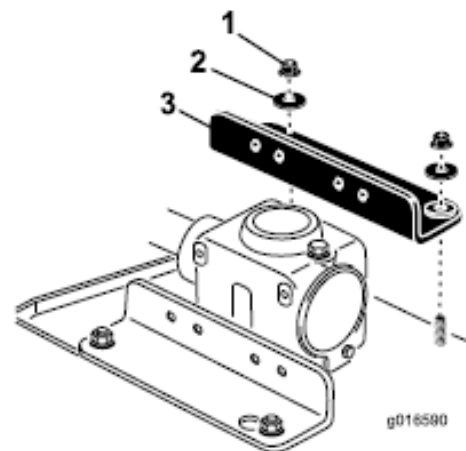

Figure 2
6. Remove and retain the (2) flange nuts and washers that secure the left gearbox bracket to the mower deck (Figure 2). This is the side of the gearbox that is opposite the discharge chute. Retain the nuts and washers but discard the bracket.